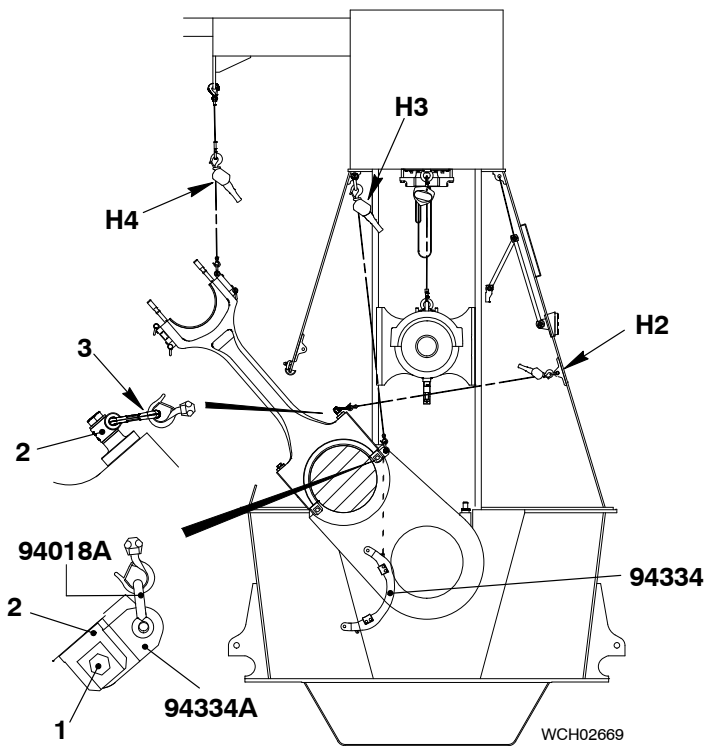

Fig. 5
- 14) Attach the manual ratchet (H2, Fig. 5) to the lug (3) on top of the rod (2).